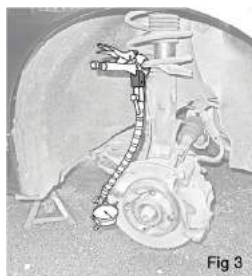

Fig 3
4. Attach the DTI gauge to the mounting clamp (B) as shown. Finger tighten the clamping screw **WARNING: Do not over tighten the screw or damage will occur to the DTI gauge.**
5. Using the clamping pliers, clamp and lock the assembly to a convenient suspension point or hub mounting that is close enough to allow the post (A) to be angled so the DTI gauge measuring point (J) can contact the brake disc at 90° to the face of the disc. Position the DTI so the measuring point (J) is depressed by 2 to 4mm. Fig. 3